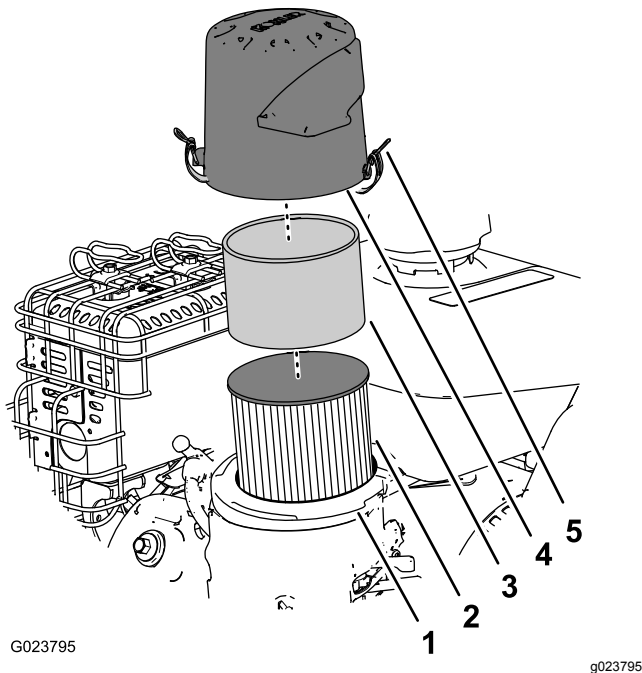

Figure 22
2. Remove the cover and clean it thoroughly (Figure 22).
3. Remove the foam pre-cleaner, wash it with a mild detergent and water, and then blot it dry (Figure 22).
4. Remove and inspect the paper air filter (Figure 22); discard it if it is excessively dirty.
6. Install the foam pre-cleaner onto the paper air filter (Figure 22).
7. Install the air filter assembly to the air-filter base (Figure 22).